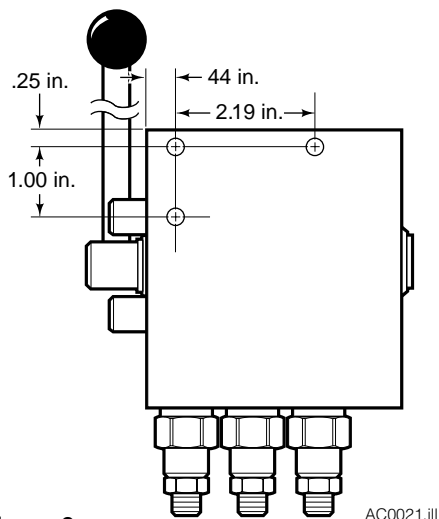
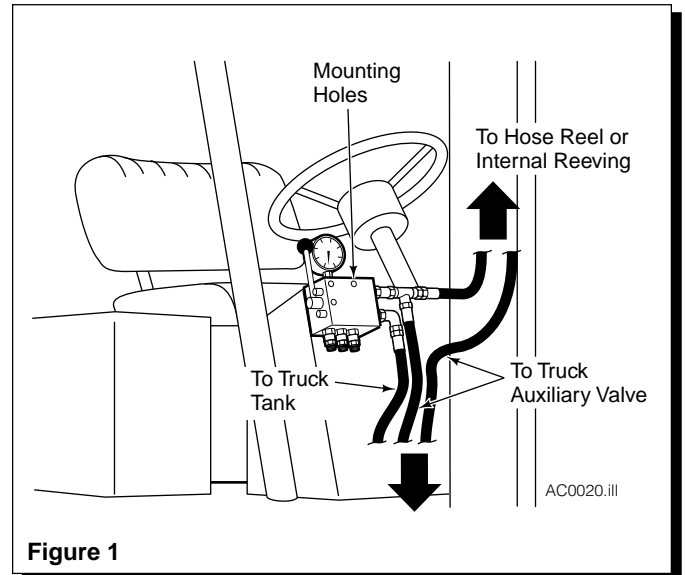

Figure 2
Figure 1
- 1 Determine a convenient location to mount the valve on the truck cowl, mast or in the driver's compartment. The valve should be mounted as close as possible to the truck valve. See the mounting hole spacing shown below in figure 2. Install 1/4 in. capscrews to fasten the valve in position. See Figure 1.